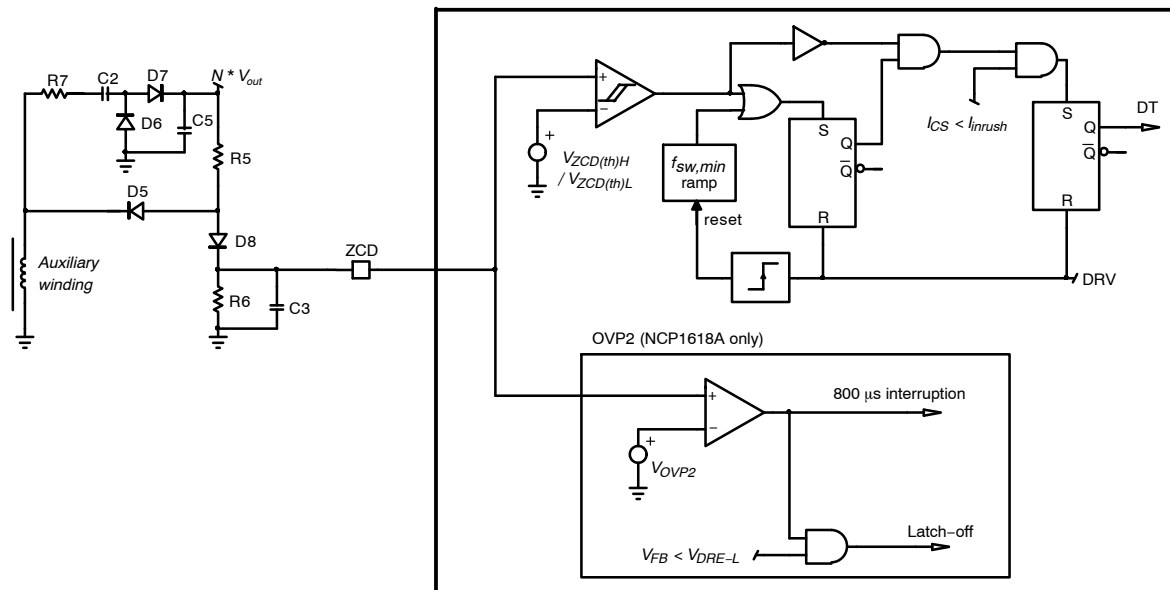

Figure 10. Zero Current Detection Block
Application note AND90011 discusses recommended circuitries for an accurate ZCD and OVP2 detections. Figure 10 provides one of these circuitries. In this circuit, R_7 being small, capacitor C_2 is charged to
Figure 10 shows how the NCP1618 detects the valley.
- The ZCD pin impedance (for instance R_3 of Figure 10), must be higher than 7.5 k Ω not to trigger the ZCD pin short-to-ground protection.
If no ZCD can be detected when the circuit operates in FCCrM mode, the circuit cannot use the valley detection to start a new current cycle. In this case, the next DRV pulse is forced by the DCM minimum frequency ramp ($f_{sw,min}$ ramp of Figure 10) which acts as a watchdog.
- If the pin is grounded, no falling edge of the auxiliary winding can be detected. The DRV remains off until the DCM minimum frequency ramp initiates a new cycle. Before the new pulse is generated, the circuit senses the pin impedance by sourcing 250 μ A. No DRV pulses are generated until the pin voltage exceeds V_{ZCDH} . Hence, the part is inhibited when the pin is grounded. Not to trigger this protection, the pin impedance (for instance R_3 of Figure 10, must be higher than 7.5 k Ω).